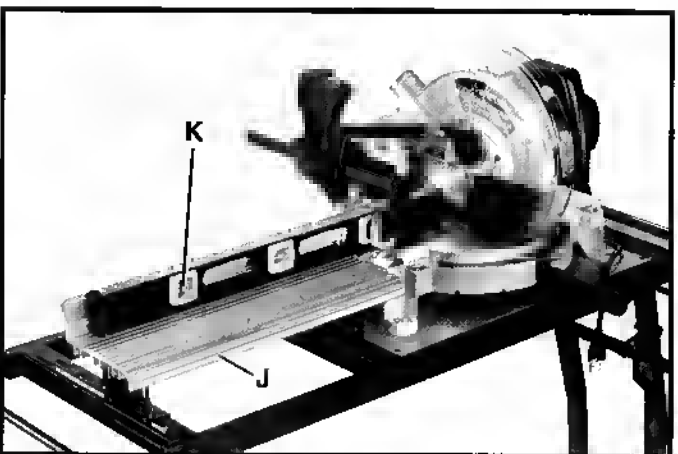

Fig. 25
4. Align the table extension assembly (J) Fig. 25, to the saw table and fence by clamping a level (K) Fig. 25, or suitable straight edge to the saw table and fence, as shown.